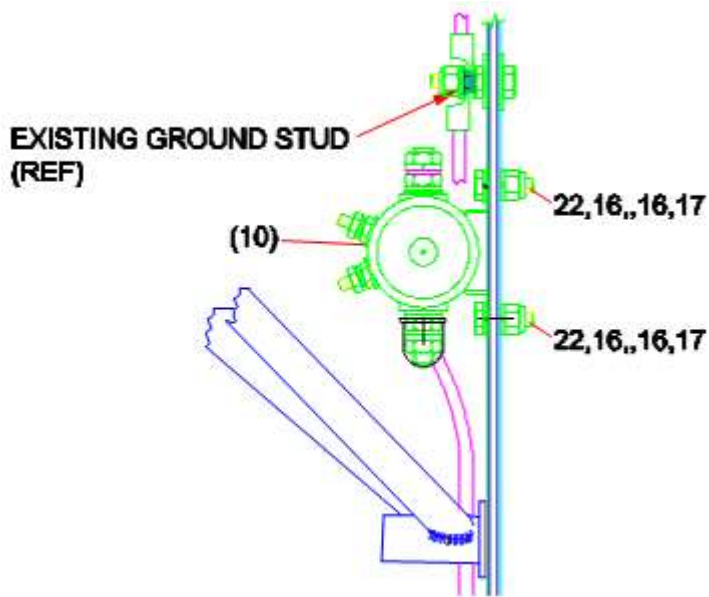

Figure 9. EPU relay attachment.
16. Install the EPU relay upside down on the firewall below the battery relay. See Figures 9 and 10.